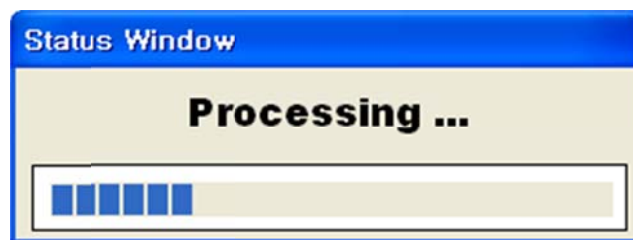

Figure 14. Firmware uploading window
④ When uploading is complete, a message box with "Complete Uploading" will be displayed as shown in Figure 14.